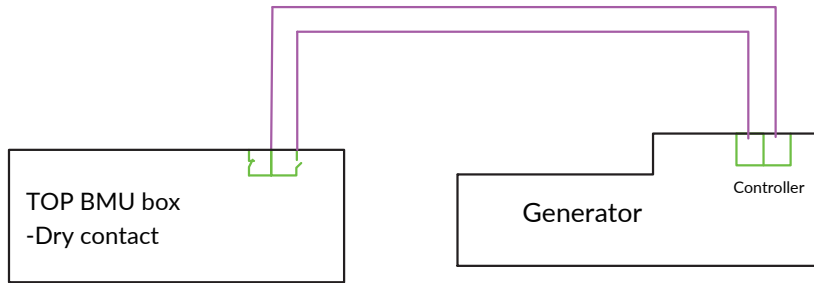

Figure 4-28 Connecting the communication cable for generator
- B. Please connect the generator controller to dry contact as the Figure 4-28 shows.